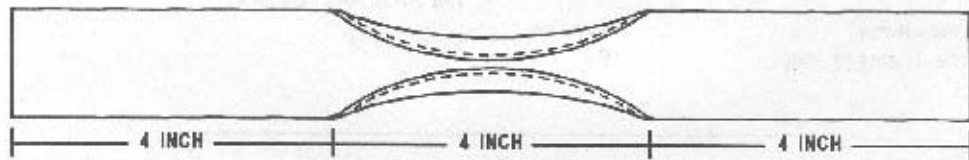

Figure 3-55
3. Mark, fold, and sew the material. (See Figure 3-55)